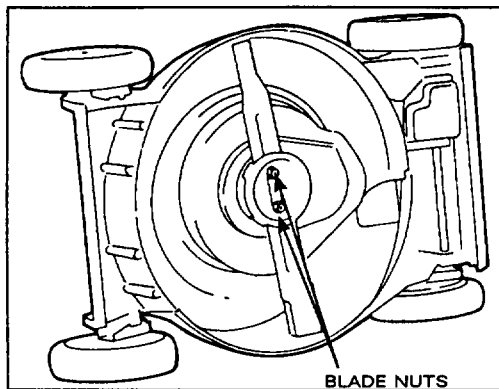

Figure 15
1. Stop engine and pull wire off spark plug (Fig. 15).
3. Tip mower on its right side (Fig. 15). Avoid rotating blade otherwise starting problems may result.
5. REMOVING BLADE—Grasp end of blade using a rag or thickly padded glove. Remove blade nuts, anti-scalp cup, blade, blade spacer, and rotating screen (Fig. 15 & 17).